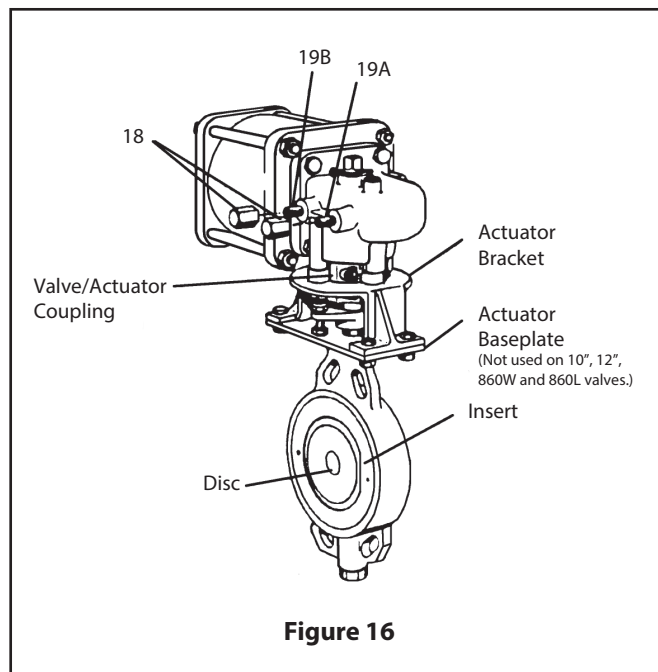

Figure 16
7.4 Setting Stops on ST and ST-MS Pneumatic Actuators (Figure 16)